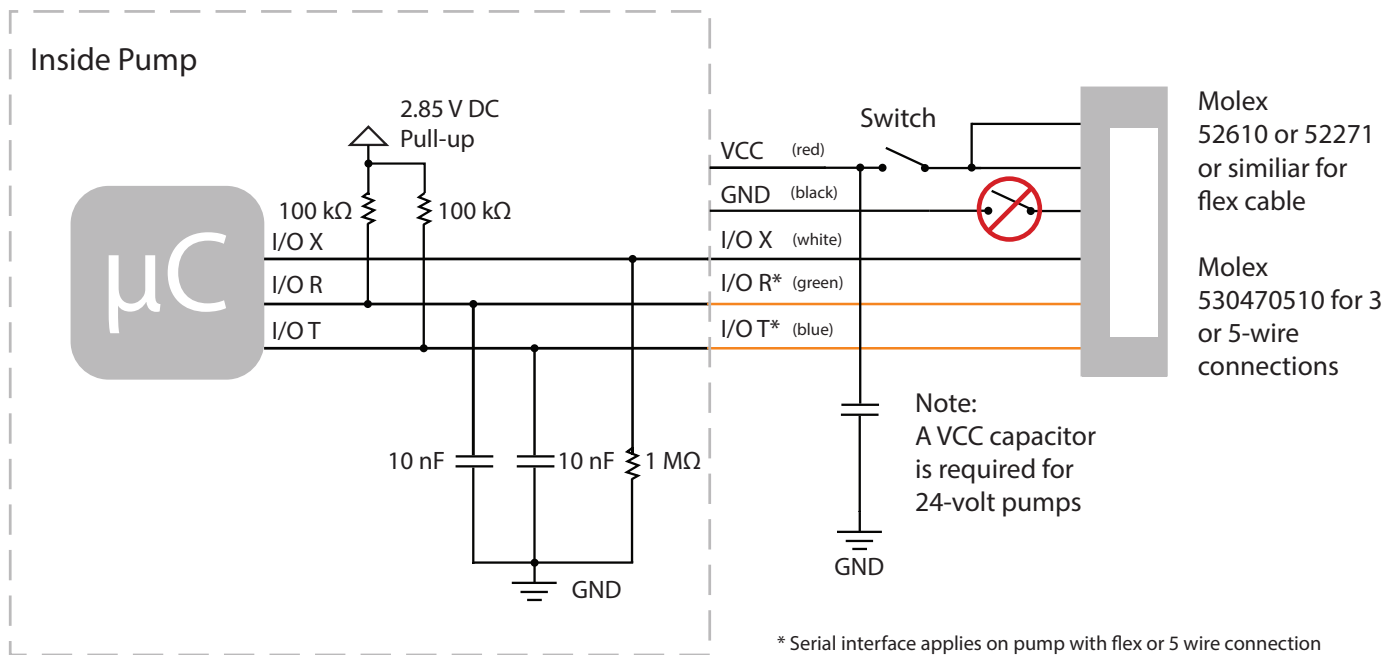

Figure 2: Electronic interface
- 3) Switch power on and off: The power must be switched on the VCC line (see Figure 2). The pump will be damaged if the switch is placed on the GND line. The capacitor has to be placed between VCC and GND on the pump side of the switch. This is because of the back EMF current that the electromagnet generates. Using this method of turning the pump off, it will not consume any power, but the microcontroller will perform the start-up procedure which takes up to 3 s (depending on default pump frequency) when the power is turned on. During this time, the pump adjusts the stroke length to reach its calibrated length. The regulation adjusts the stroke length for every pump stroke thus it depends on the pump frequency.
Xavitech recommends using a capacitor parallel to the power supply (see Figure 2) to reduce the power spikes generated by the electromagnetic motor. For 24-volt pumps, a VCC capacitor is required to not damage the pump. See the recommended capacitors sizes below.